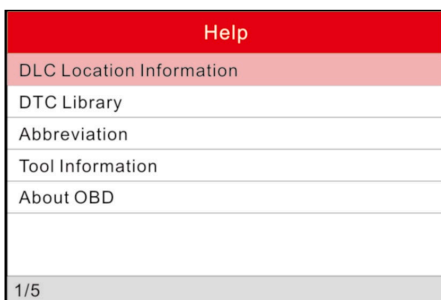

Figure 5
- Select Tool Information, press OK. (Figure 5)